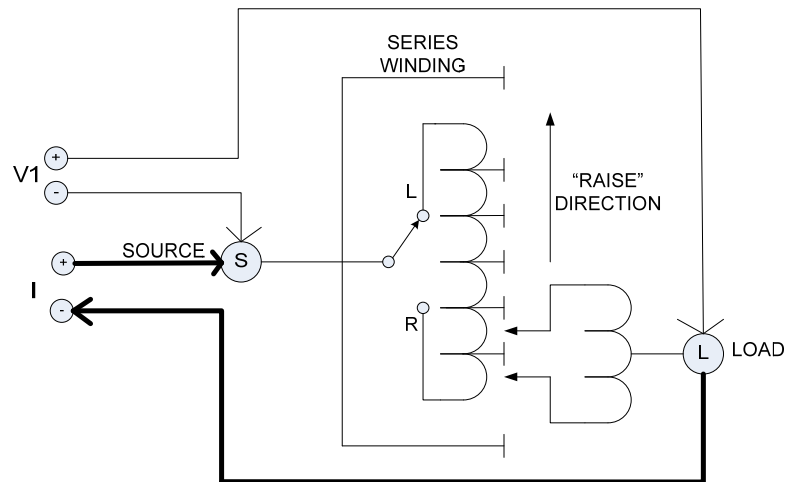

Figure 10: Connection to a Regulator
3. Connect V1 voltage leads to test specimen winding. See Figure 10.
4. Connect current leads (I) to test specimen winding. Do not clip potential leads to the current leads, since this will add contact resistance to the measurement. **Potential leads should always be placed inside (between) the transformer and the current leads.** See Figure 10.